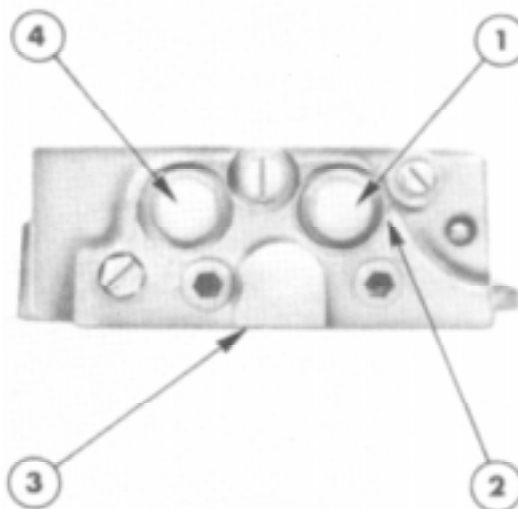

Figure 10
1. Extract the spool retaining snap ring, Figure 10, and remove the centring spring cap.